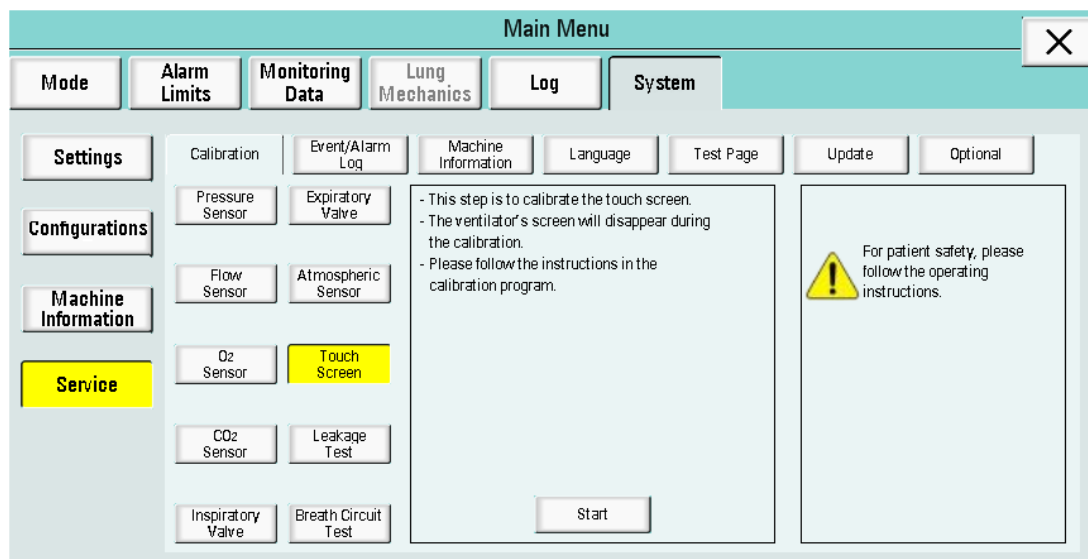

Figure 6-66
(7) Touch Screen Calibration: Click “Touch screen” to enter the calibration interface. A message is displayed: “This step is to calibrate the touch screen. The ventilator’s screen will disappear during the calibration. Please follow the instruction in the calibration program.” as shown in Figure 6-66.